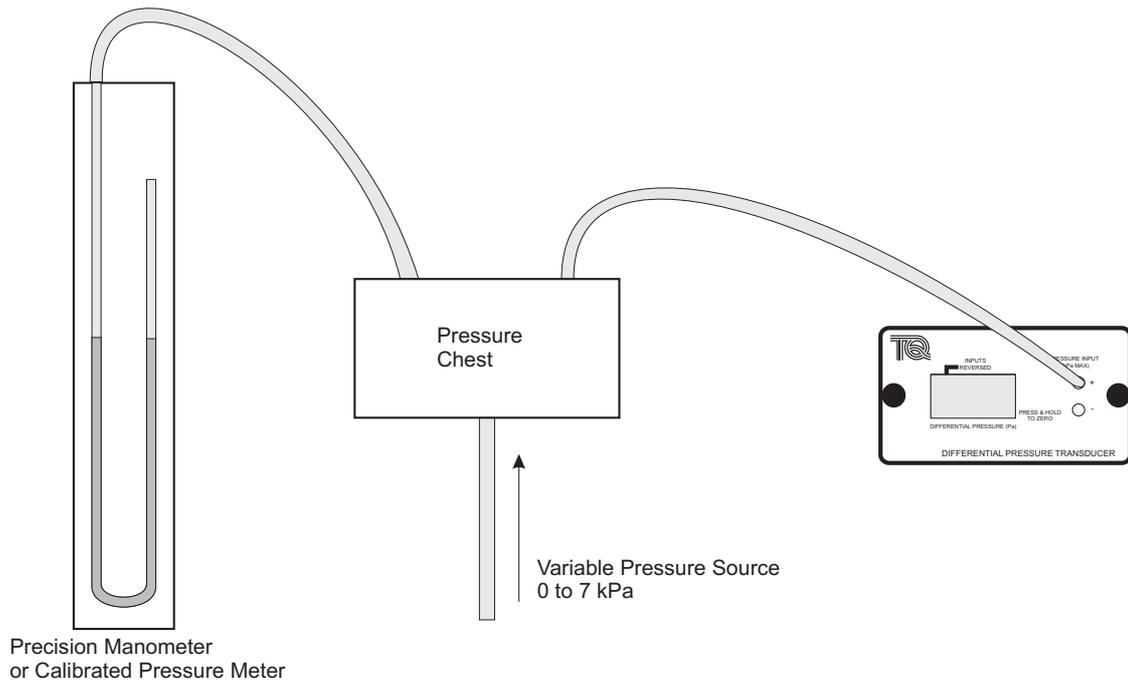

Figure 8 Connections for calibration
1. Connect the AFA5 to the pressure chest and manometer as shown in Figure 8. Note that the '+' connection is used. The '-' connection is left open to atmospheric pressure. Do not apply any pressure yet.